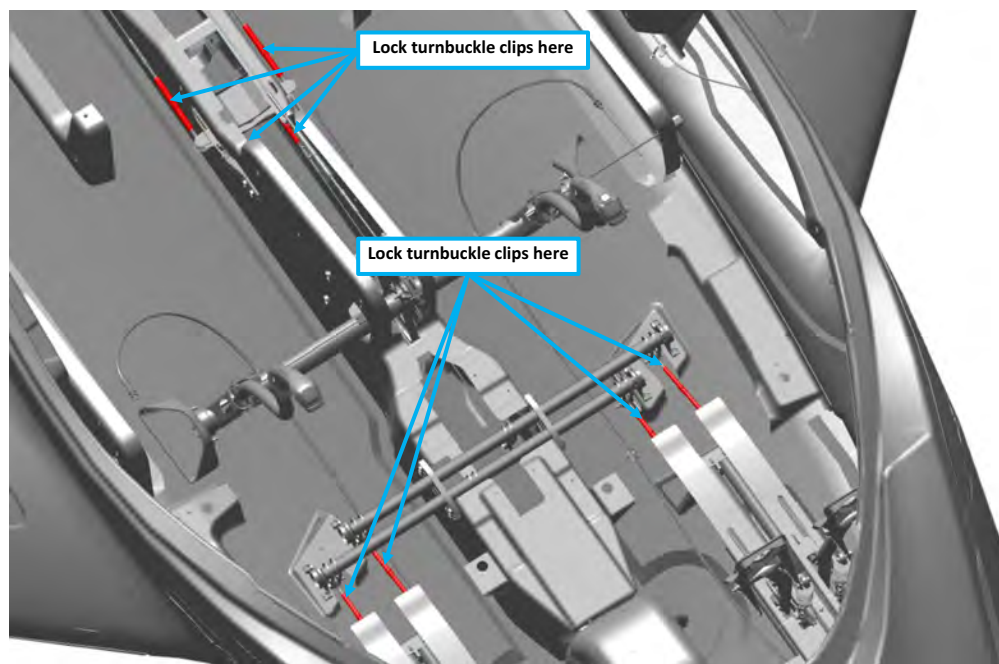

FIGURE 9-60
15. Lock all turnbuckle clips (2 per turnbuckle) in place, refer to Figure 9-60: